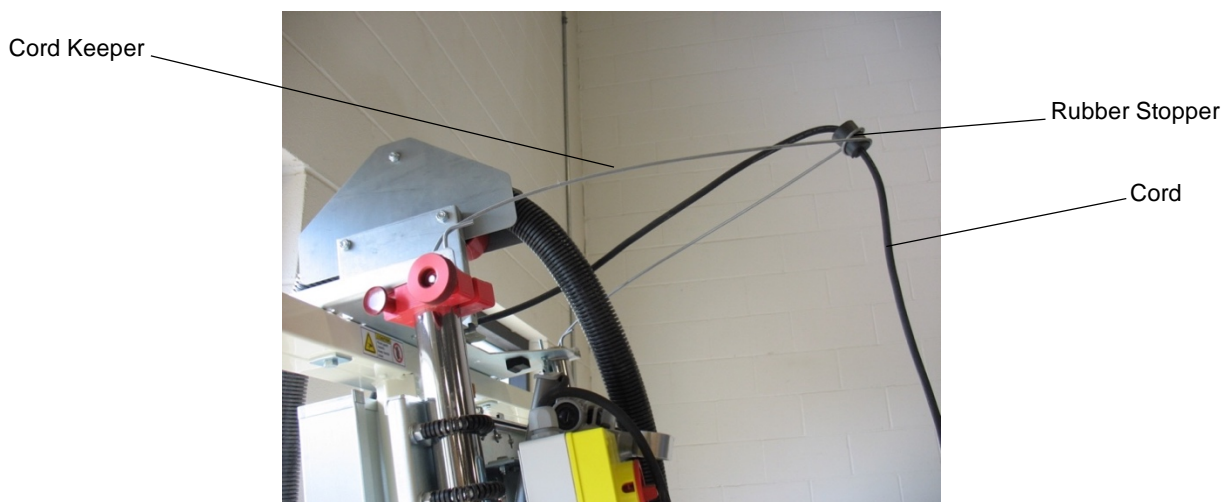

Figure 24: Cord keeper installed with cord
2. Remove the rubber stopper from the ring in the cord keeper. See Fig. 23. Uncoil the cord from the motor, and place the plug end through the ring as shown, Fig. 24.
4. Pull the cord keeper down so it is roughly parallel to the floor as shown. Pull the cord up to remove any slack in it. Then open the rubber stopper and pull it over the cord with the small end of the taper on the bottom. Press the rubber stopper into the ring on the cord holder, Fig.24.